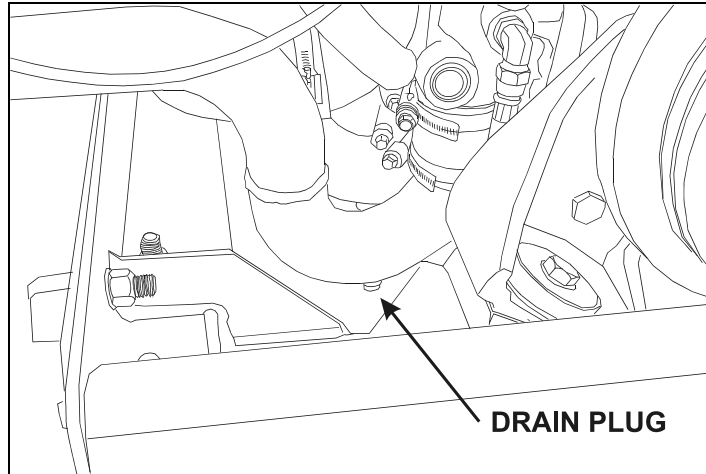

FIGURE 5: WATER PUMP DRAIN PLUG 05072
3. Open the water pump housing inlet line drain plug (Fig. 5).